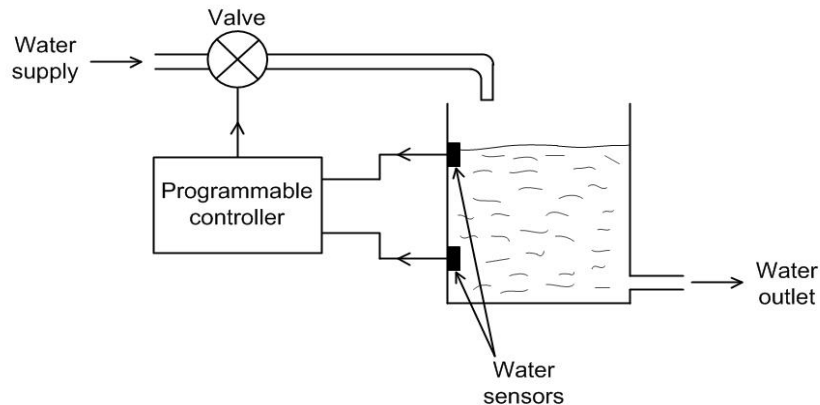

Fig. 6
- 4 A design engineer is solving a problem for a laundry. The laundry process requires the level of water in a tank to be maintained between two sensors. The water tank system is shown in **Fig. 6**.
- (ii) Analyse the information in **Fig. 6**, and draw a complete circuit diagram to show how the interface component would be connected between the programmable controller and the double-acting pneumatic cylinder.